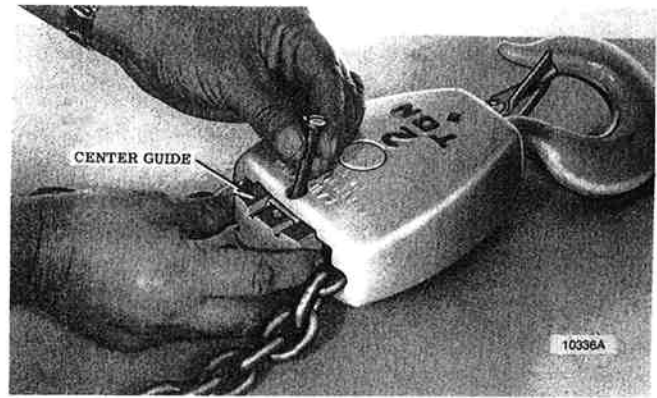

Figure 7-27. Removing Chain Center Guide from 2 thru 5 Ton Lower Block Assembly (Link Chain Model).
(1) On 2-ton roller chain models, remove retaining ring from one end of sprocket pin and press pin from lower block body. Grasp chain and pull out sprocket and two spring washers from body. Do not remove needle bearing from sprocket or pressure lube fitting from sprocket pin unless replacement is necessary.
(2) On 2-ton link chain models, remove fillister head screw securing center guide in top of lower block body and lift out guide (fig. 7-27) and sprocket pin lock (fig. 7-28). Press sprocket pin from body and pull out chain, sprocket and washer (fig. 7-29). Do not remove bushing type bearing from sprocket or pressure lube fitting from sprocket pin unless replacement is necessary.